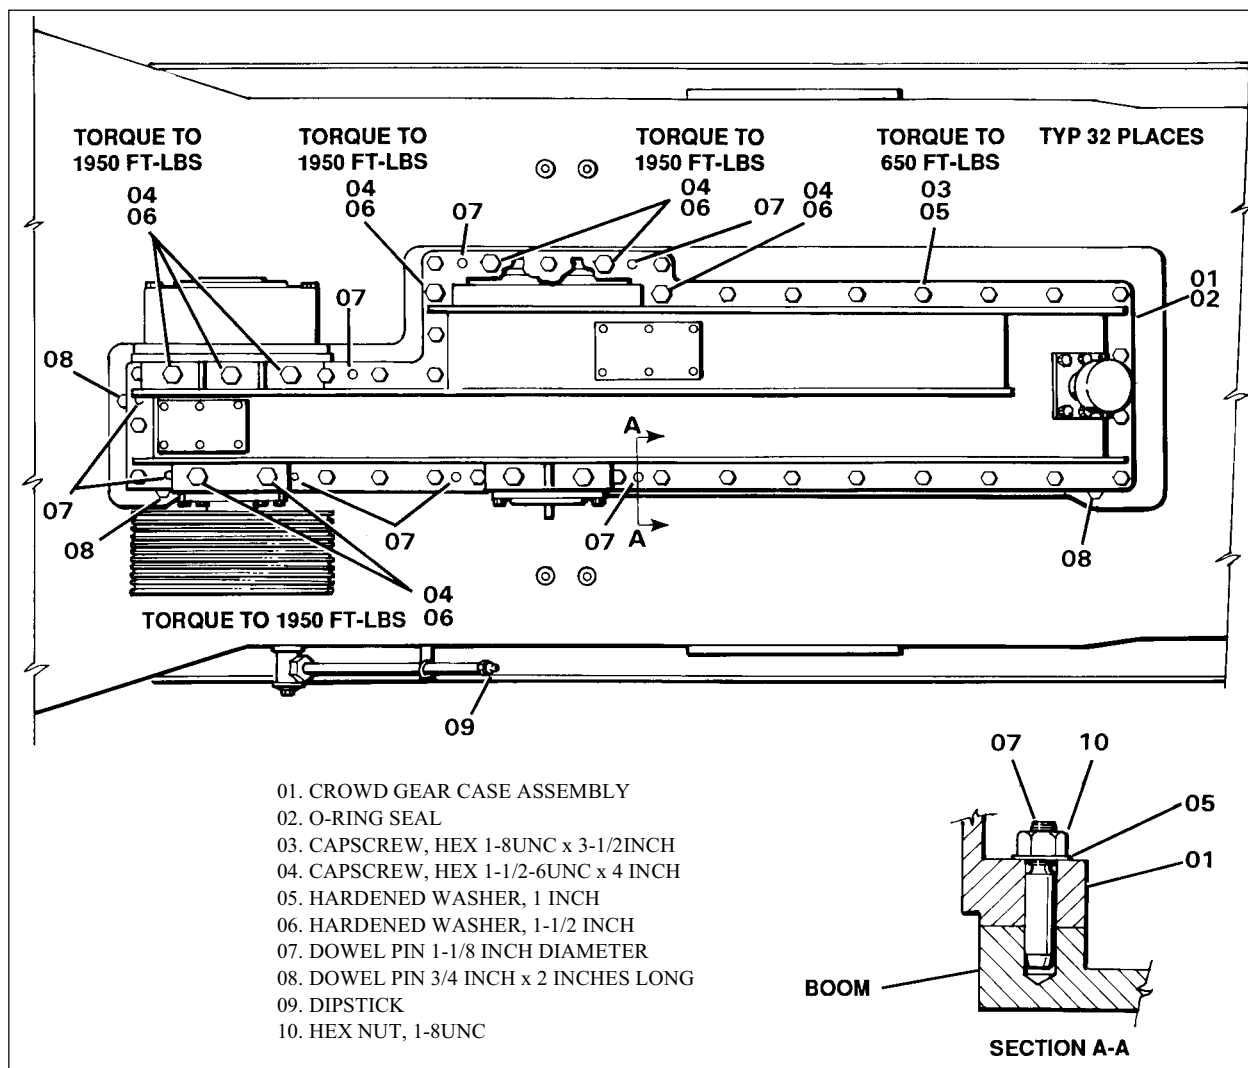

Figure 6-10. Gearcase Cover Bolt Arrangement (911J354)
8. Remove all the gear case cover bolts and dowels (see Figure 6-10).
CROWD GEAR CASE COVER INSTALLATION. Refer to Figure 6-10 and install the gear case cover with the first and second reduction shafts as follows:
2. Install the capscrews, coupling dowels, nuts and lockwashers in the gear case cover flange. Tighten the nuts in steps alternating from one side of the gear case to the other until all nuts are tightened to specified torques as specified in Figure 6-10.
Coupling dowels are installed in special bores located around the gear case cover flange as shown in Figure 6-10.